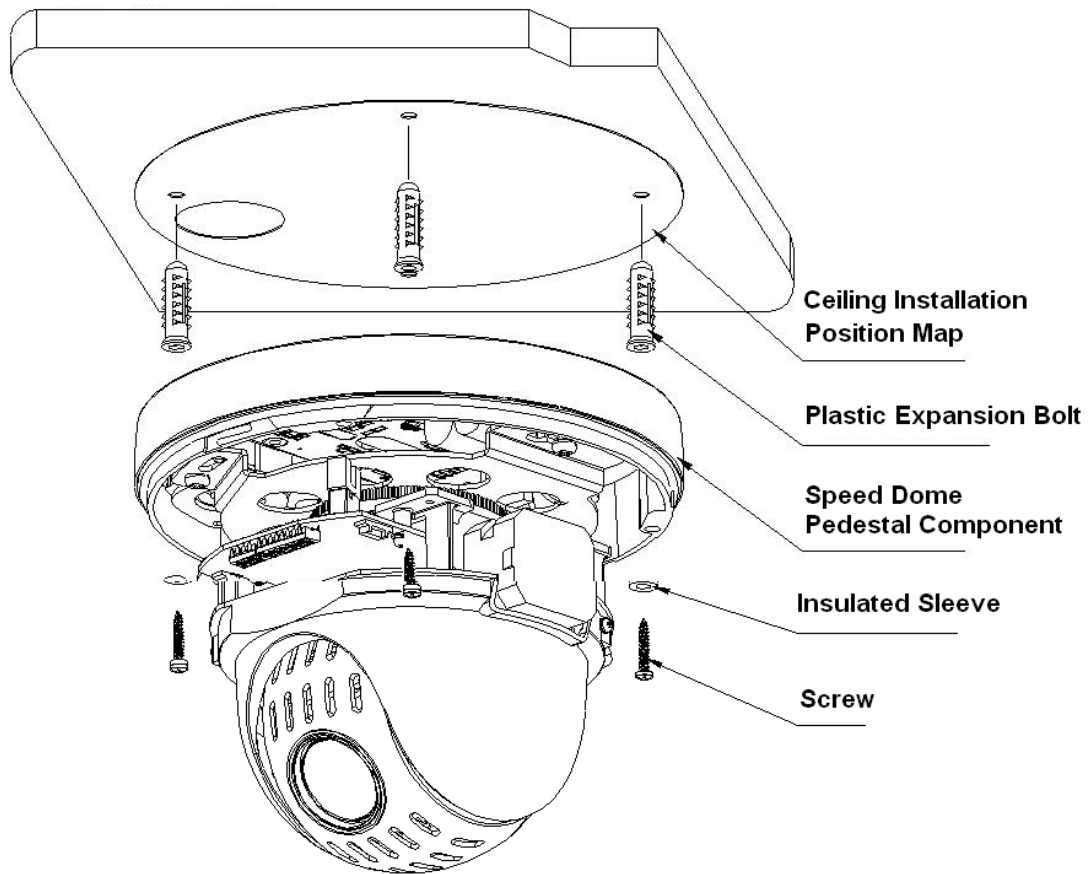

Figure 3-2
- 3) In Figure 3-2, pull the cable according to your cable exit mode. And then use four screws (working with insulated sleeve) to secure the pedestal of ceiling mount speed dome on the ceiling. Turn the screws to the plastic expansion bolts.